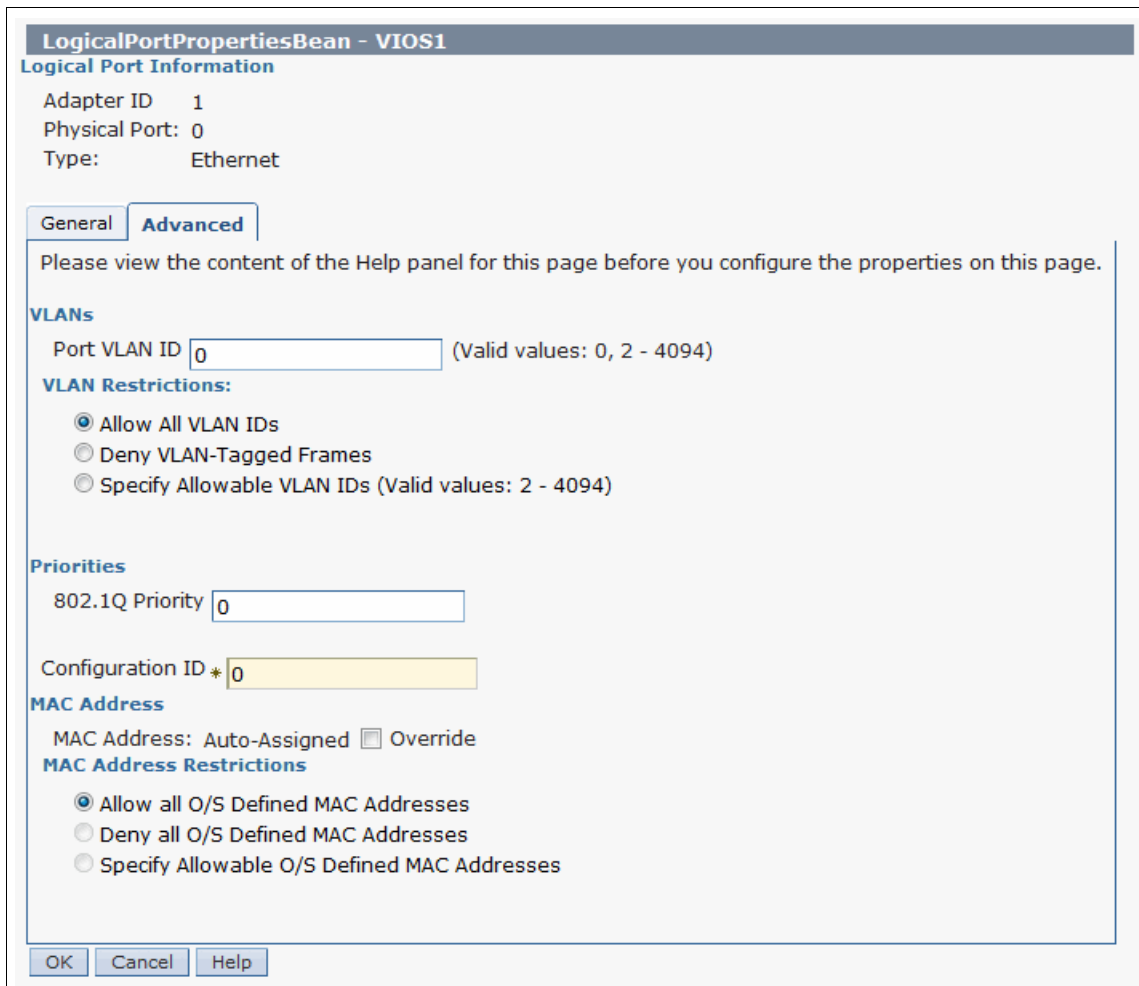

Figure 4-27 Advanced properties
5. The next tab in the logical port properties panel shows advanced properties. The user can set required properties on the logical port, as shown in Figure 4-27.